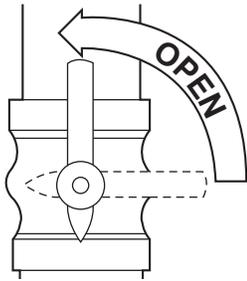

Fig. 17 - Open Valve
9. Open the external manual gas valve. (See Fig. 17.)